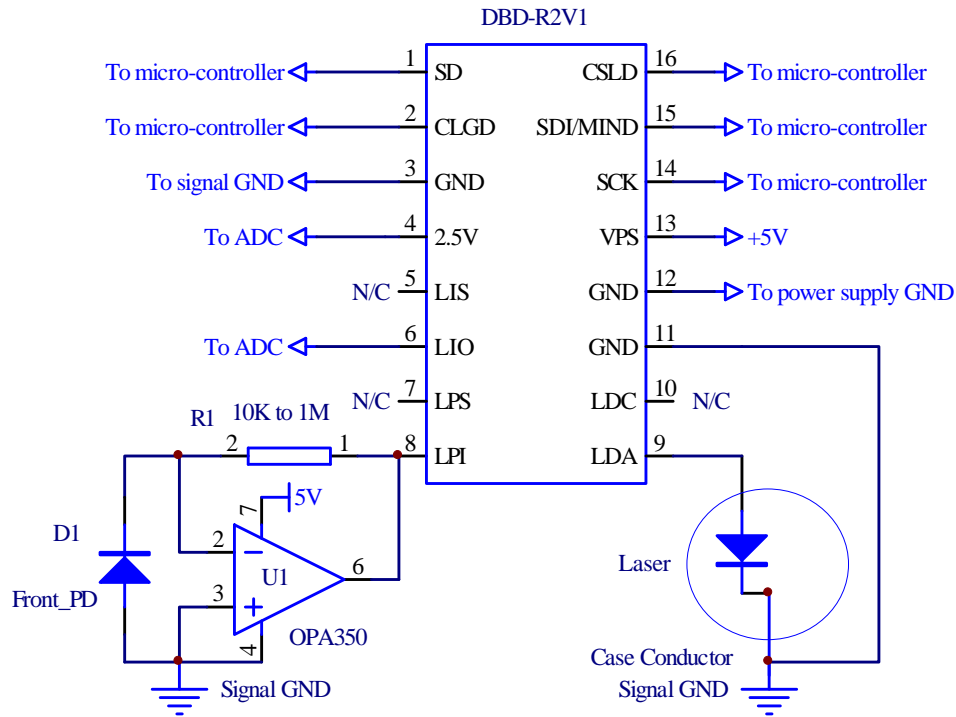

Figure 1A Driving a Common Cathode Laser
- Pin 9** LDA, laser diode anode, analog output. This pin is used to drive a laser of which the cathode is connected to the case and the case is connected to the ground. When using this pin, the laser anode needs to be connected to the ground. See Figure 1A.